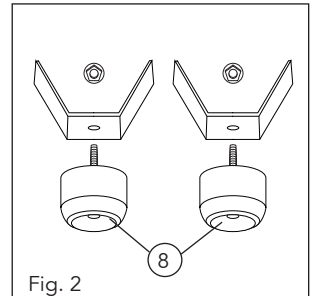

Fig. 2
Fitting the supporting feet (8) (Fig. 2):